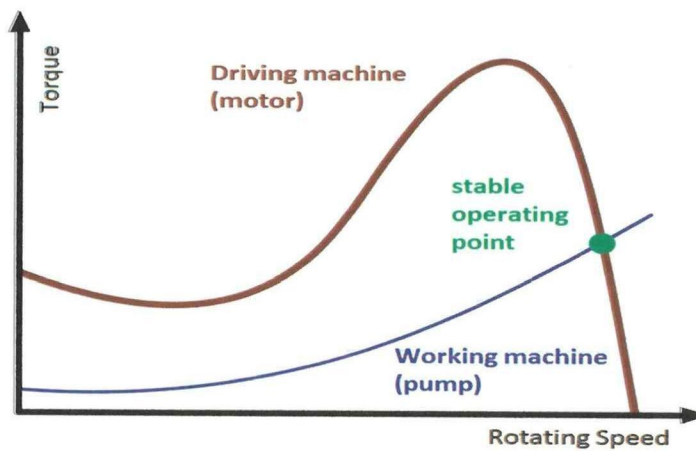

Figure Q2(d)
- (d) **Figure Q2(d)** is the torque-speed characteristic of an induction motor. Label the stable and unstable operating regions and discuss these phenomena. (5 marks)